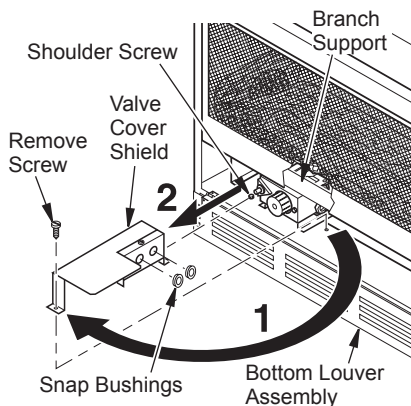

Figure 15 - Removing Valve Cover Shield
1. Open bottom louver assembly by swinging the assembly down (see Figure 15).
2. Using short Phillips screwdriver, remove the screw under the center of the branch support. Rotate valve cover shield clockwise and slide out. **IMPORTANT:** Do not remove shoulder screw on the left side of valve cover shield. Slide the valve cover shield off of the shoulder screw (see Figure 15).